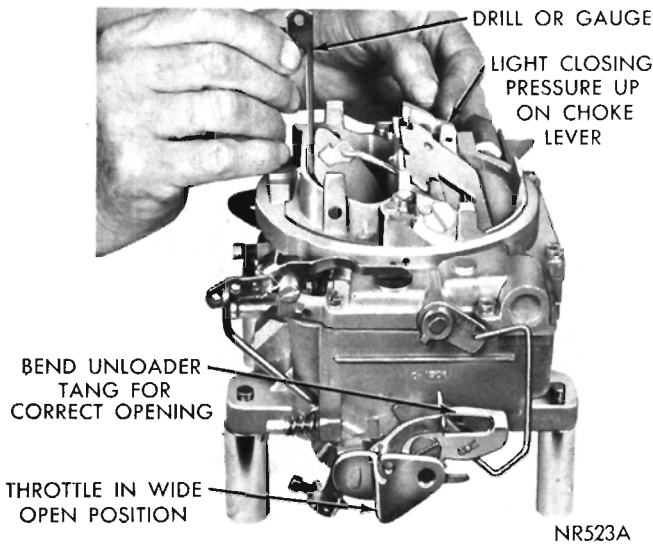

Fig. 14—Checking Choke Unloader (wide open kick)
(1) Hold throttle valves in wide open position. Insert specified drill (refer to Specifications), between upper edge of choke valve and inner wall of air horn. (Fig. 14).
(2) With a finger lightly pressing against choke lever, a slight drag should be felt as drill is being withdrawn. If an adjustment is necessary, bend unloader tang on fast idle cam, using Tool T-109-22, until correct opening has been obtained. (Fig. 14).